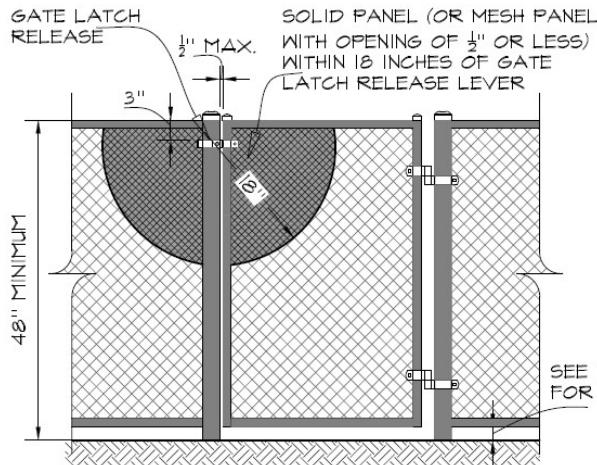

Figure 7a
2. The gate and barrier shall have no opening larger than  $\frac{1}{2}$  inch within 18 inches of the release mechanism. See Figures 7a & b.